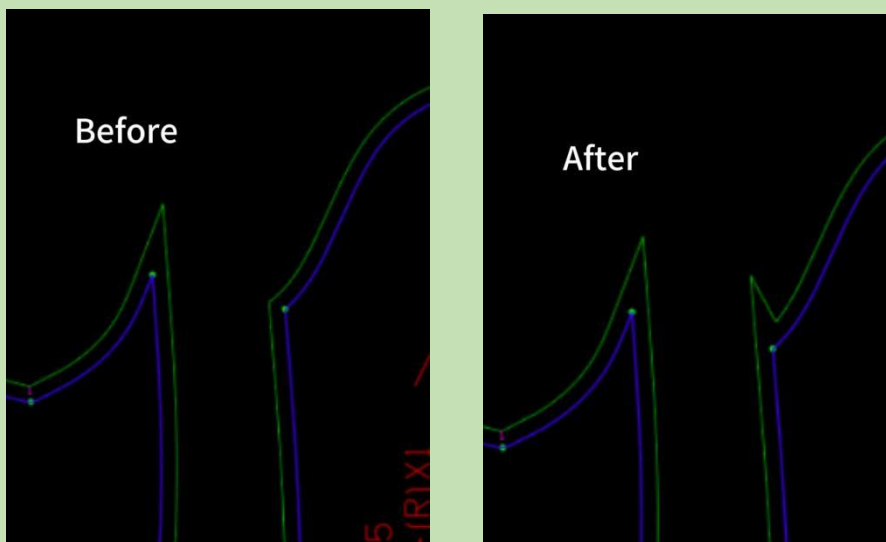

Figure5-21
3. Click on the near end of the reversed folding side of the other pattern. The comparison figure before and after the setting of the reversed folding angle is shown in Figure 5-21.